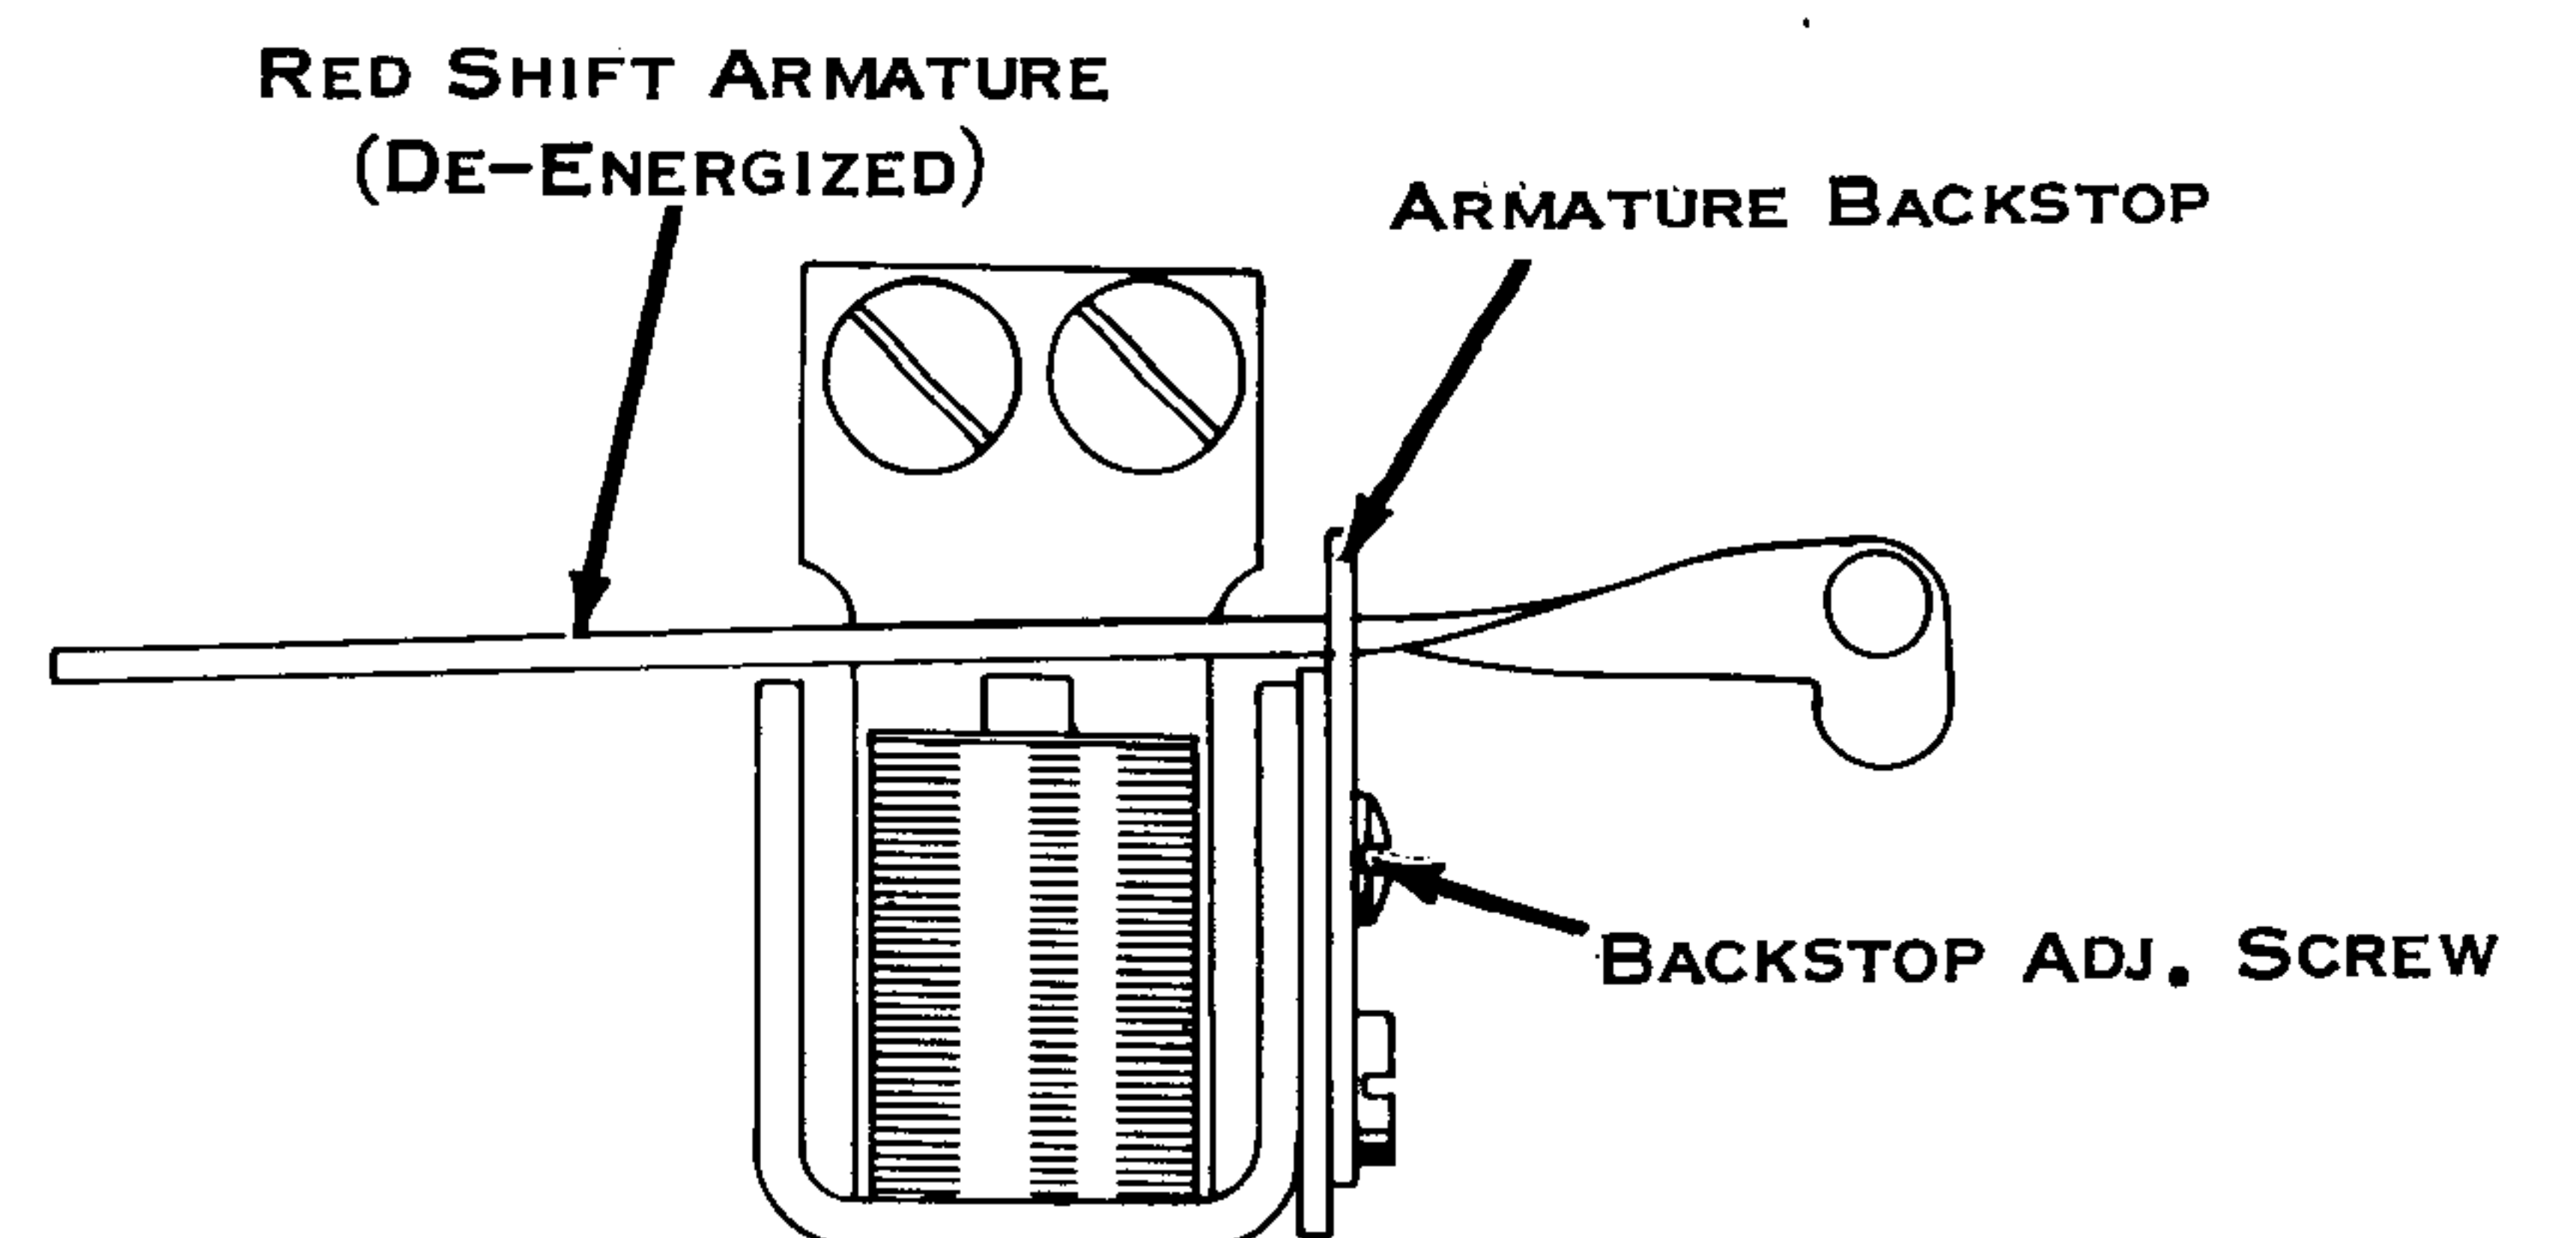

Figure 218. Red Shift Armature Backstop
6. Red Shift Armature Backstop (Fig. 218 & 219) - With the armature de-energized, position the red shift armature backstop to obtain .002" to .005" clearance between the stud and the follower latch slot.